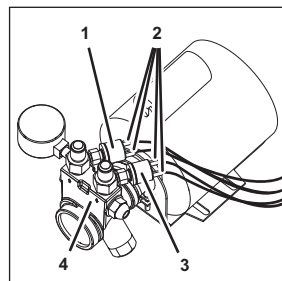

Figure 58
1. Disconnect the plugs (Figure 58/2) from the input pressure switch (Figure 58/3) or the output pressure switch (Figure 58/1).
2. Turn the input pressure switch (Figure 58/3) or the output pressure switch (Figure 58/1) and remove from the carbonator pump (Figure 58/4).
3. Apply Loctite to the input pressure switch (Figure 58/3) or the output pressure switch (Figure 58/1).
4. Attach the new input pressure switch (Figure 58/3) or the new output pressure switch (Figure 58/1) to the carbonator pump (Figure 58/4) by turning it.
5. Connect the plugs (Figure 58/2) to the input pressure switch (Figure 58/3) or the output pressure switch (Figure 58/1).